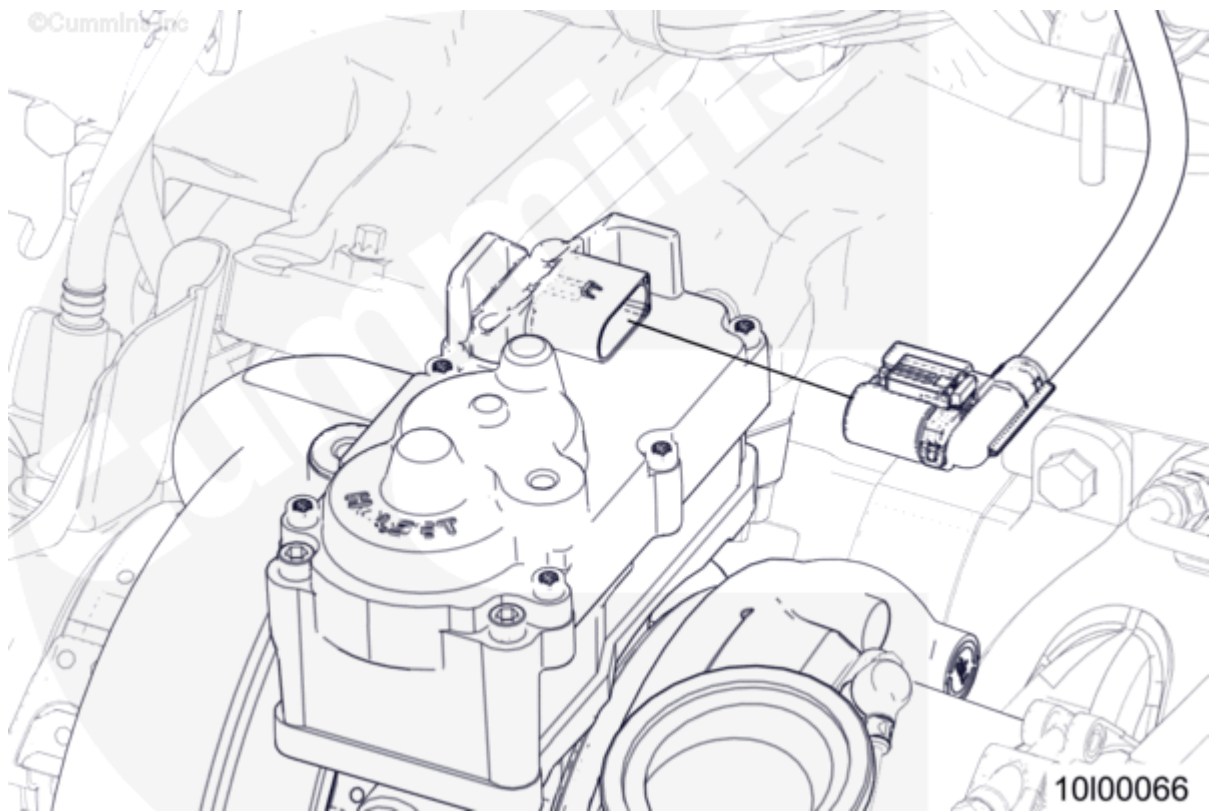

Figure 16, VGT Actuator Connection.
1. Connect engine wiring harness connector to VGT Actuator. See Figure 16 above.